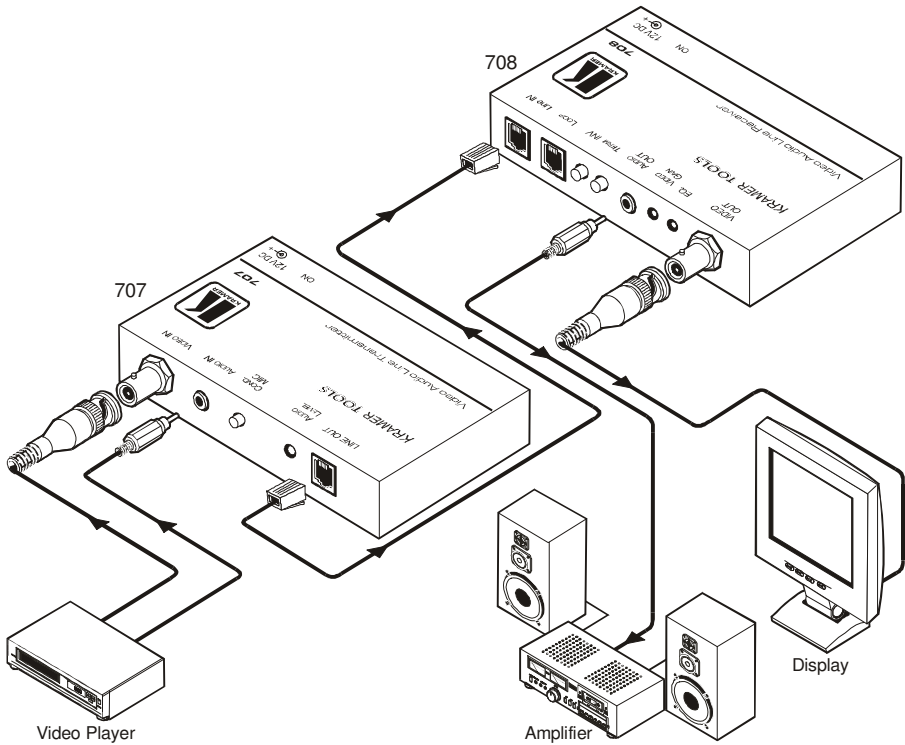

Figure 3: Connecting the 707/708 Video Audio Line Transmitter/Receiver System
To connect the **707 Video Audio Line Transmitter** with the **708 Video Audio Line Receiver**, as illustrated in the example in Figure 3, do the following:
7. On each **707 / 708** unit, connect a 12V DC power adapter to the power socket and connect the adapter to the mains electricity (not illustrated in Figure 3).